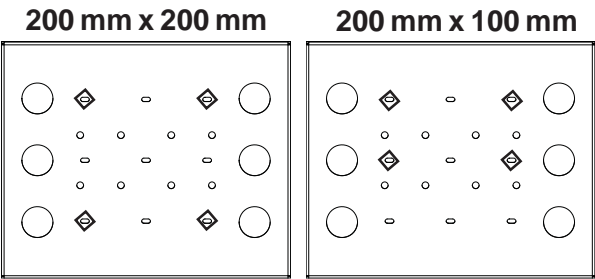

**fig. 3.1**
- Make sure that togglers are anchored into the center of the studs as shown in figure 3.1. The use of an "edge to edge" stud finder is highly recommended.